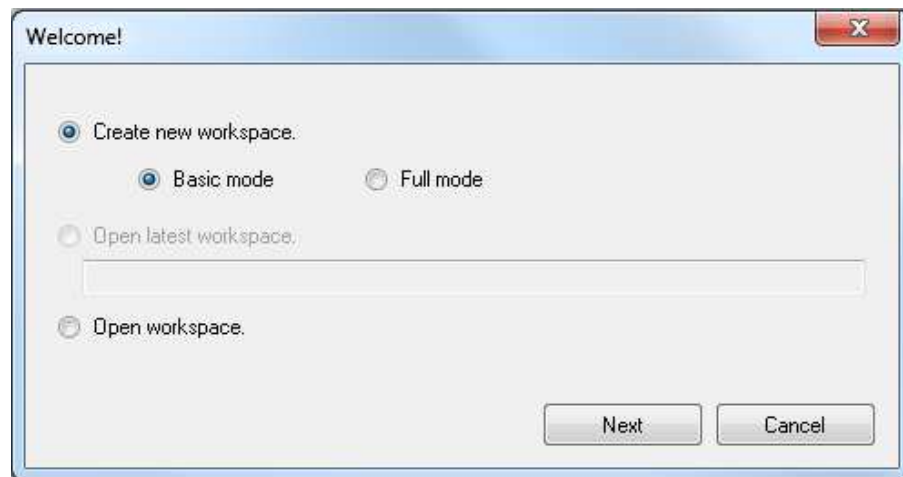

Figure 5-2.RFP start-up screen
- Double click on the file name to open the application. (Note that Windows Vista and 7 users may have to use "Run as administrator") and the opening screen should open as in Figure 5-2 below.